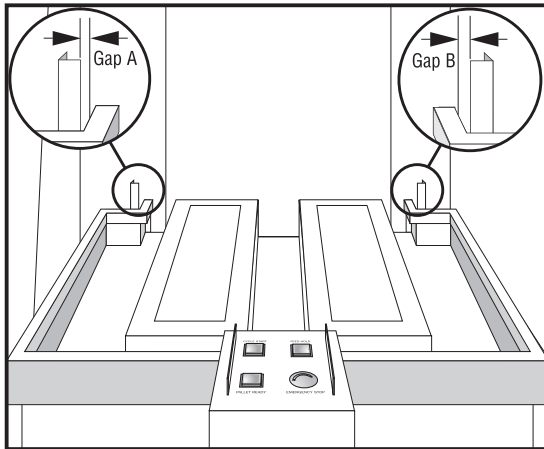
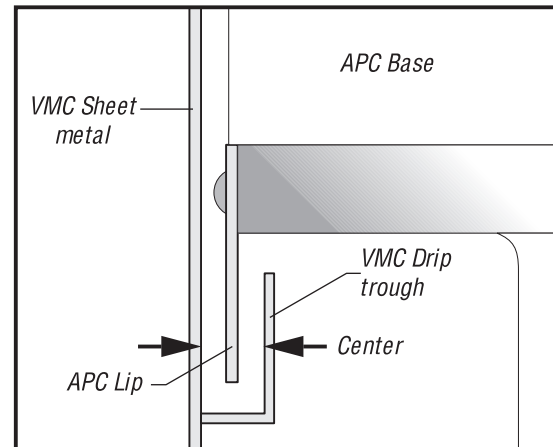

Figure 11.18 Gaps A and B should be equal.
Figure 11.19 The APC lip should be centered in the VMC drip trough.
9. Raise the APC with the forklift and install the leveling screws into the legs. As a preliminary height setting, turn the screws until the length of screw extending above the APC leg is the same as the length of VMC leveling screw extending above the VMC base. Set the leveling pads (3) in place.
10. Set the APC in place on the leveling pads, so that it is centered in the VMC door opening (see Figure 11.18). Ensure that the lip of the APC enclosure is centered in the VMC drip trough (see Figure 11.19).